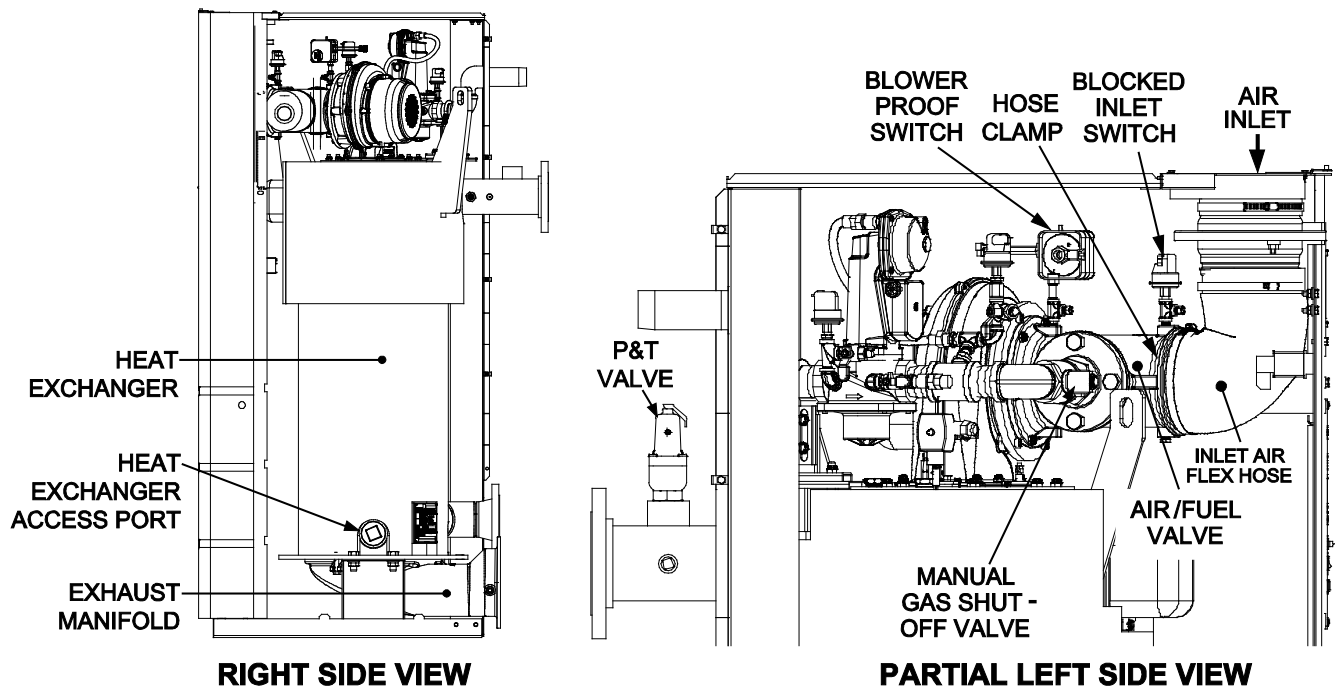

Figure 2: Benchmark 2.0LN - (Side Views)
Benchmark 2.0LN Models contain a single heat exchanger as shown in Figure 2. Perform the waterside inspection as follows:
4. Open the P&T relief valve (Figure 2) to allow air to enter the heat exchanger during draining.
5. After the heat exchanger has been drained, remove the 2-1/2 inch access port plug on the right side of the heat exchanger as shown in Figure 2.
10. Disconnect the inlet air flex hose from the Air/Fuel Valve (Figures 2 & 4) by loosening the hose clamp.